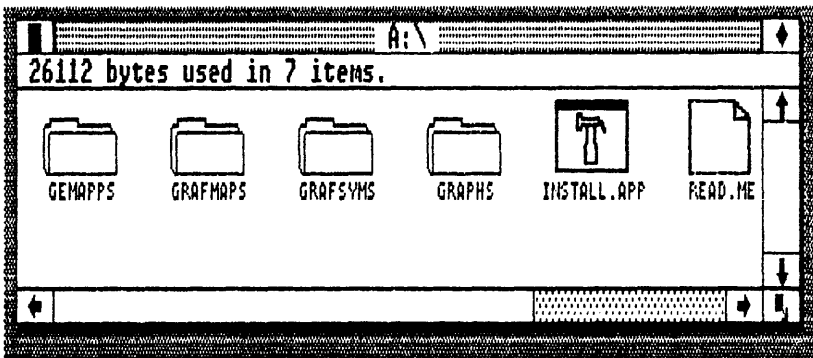

Fig. 5-1. Double-click on the INSTALL.APP icon for installing GEM Graph.
- ☐ Double-click on the INSTALL.APP icon (Fig. 5-1).